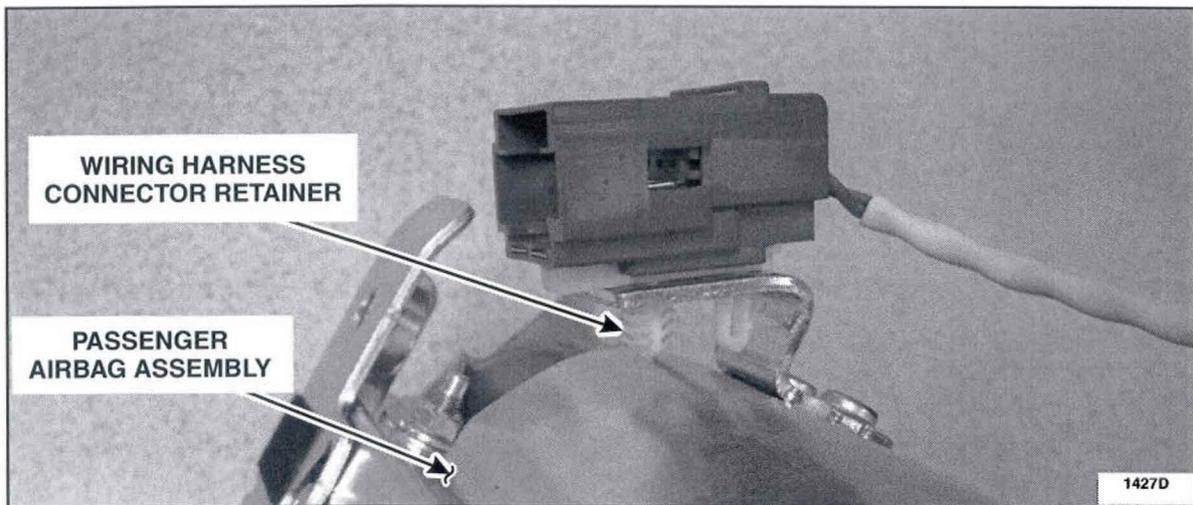

FIGURE 3
3. Remove the wiring harness connector retainer from the passenger airbag assembly. See Figure 3.
12. Install the *new* wire harness retainer onto the passenger airbag assembly. See Figure 3.